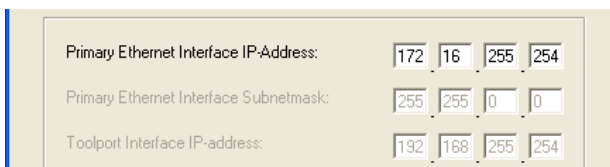

Figure 46. The IPConfig dialog box with factory default setting.
4. Click **Connect** and then press the **Init** push-button on the Controller until the **Run LED** starts to blink. Wait about a minute until the default IP address appears, see Figure 46.